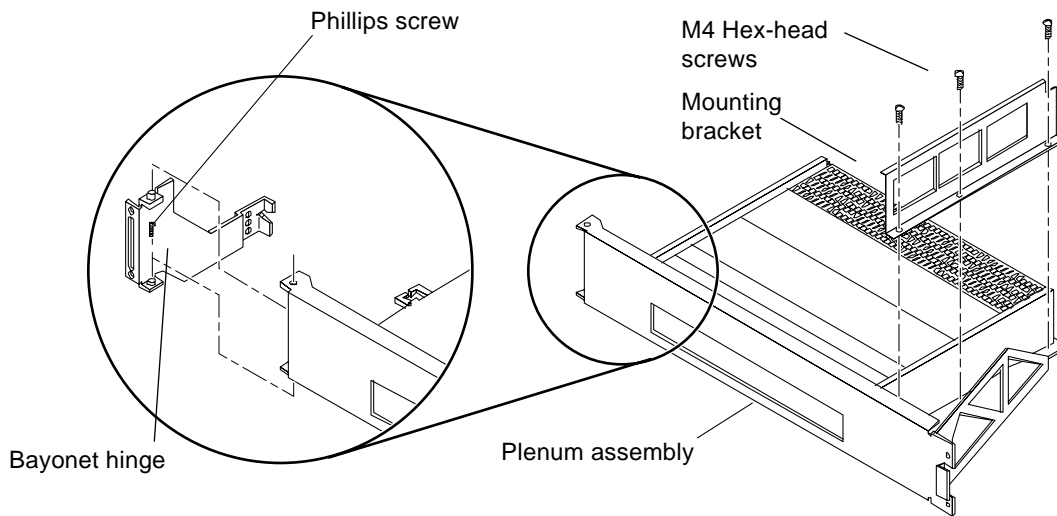

Figure 9-5 Terminal Concentrator Mounting Detail
Refer to detail in Figure 9-5.
- 6. Remove the three M4 hex-head screws that secure one of the terminal concentrator mounting brackets to the plenum as shown in Figure 9-5.**